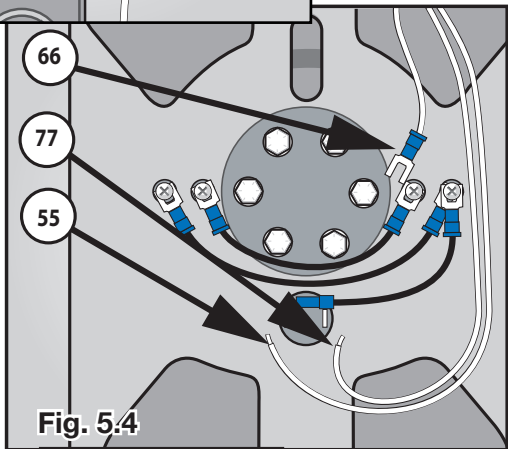

Fig. 5.4
- Check insulation of all windings to ground (open connection). (See Fig. 5.4.)